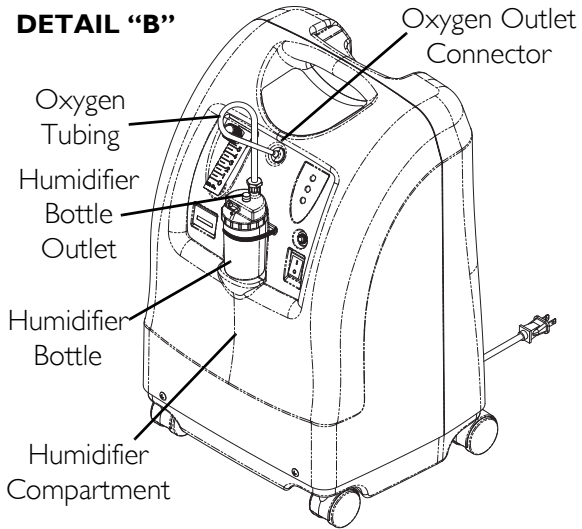

FIGURE 5.3 Humidifier Compartment
NOTE: For this procedure, refer to FIGURE 5.1, FIGURE 5.2 on page 17, FIGURE 5.3 on page 18.
5. Attach the humidifier bottle adapter to the humidifier bottle by turning the wing nut on the humidifier bottle counterclockwise until it is securely fastened. See Detail "A" in FIGURE 5.3.
6. Place the humidifier bottle/adapter assembly in the humidifier compartment on the concentrator. See Detail "B" in FIGURE 5.3.
7. Attach oxygen tubing from the humidifier bottle/adapter assembly to oxygen outlet connector on the concentrator. See Detail "B" in FIGURE 5.3.
8. Attach the cannula/patient supply tubing to the humidifier bottle outlet. See Detail "B" in FIGURE 5.3.